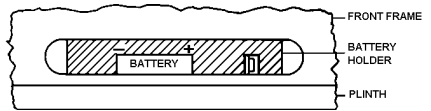

Fig.5
1. The battery is located on the left hand side of the front plinth and can be viewed through a slot in the bottom left hand corner of the front frame. (fig 5)